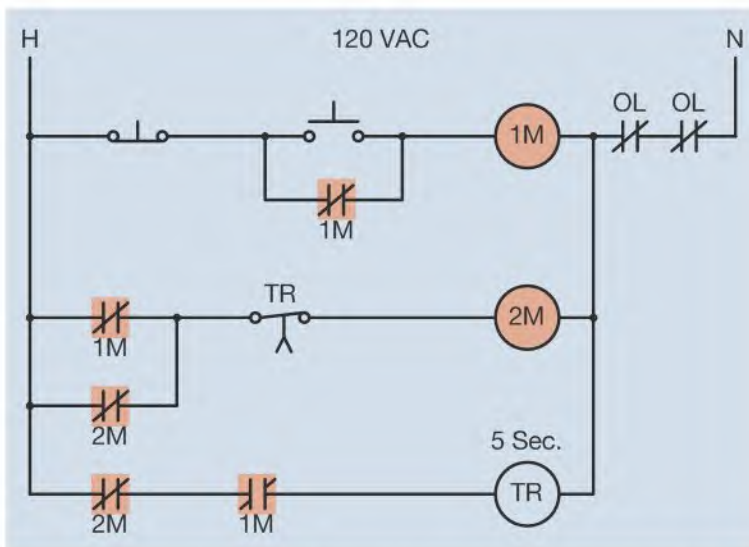

Figure 11-25 Starters 1M and 2M energize causing all 1M and 2M contacts to change position.
1. When the start button is pressed, starter 1M energizes and all 1M contacts change position, Figure 11-25.